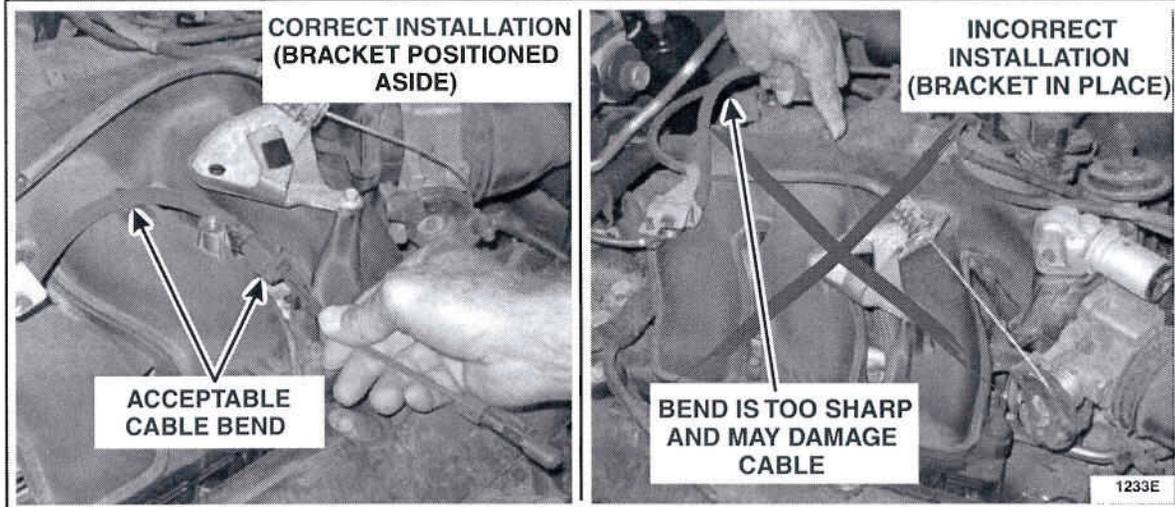

FIGURE 4
NOTICE: Do not bend the speed control cable in order to route it under the throttle cable bracket. The throttle cable bracket must be positioned aside or damage to the speed control cable may occur. See Figure 4.
4. Route the speed control cable under the bracket as shown in "correct installation" below. See Figure 4.